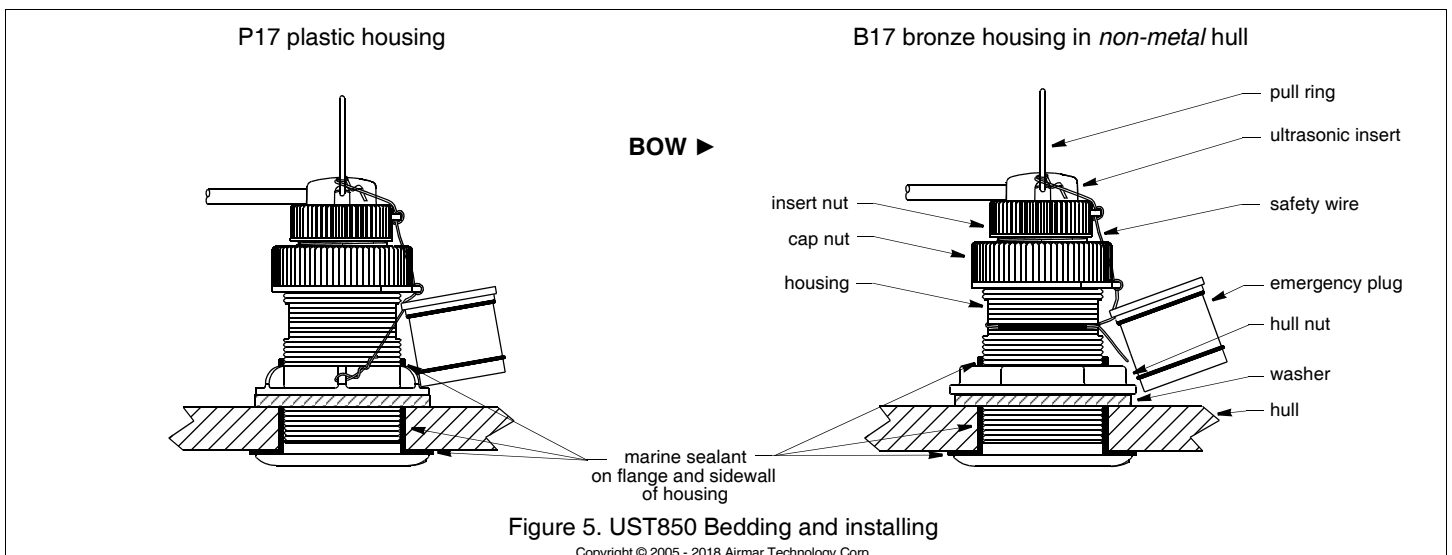

Figure 5. UST850 Bedding and installing
UST850 (Figure 5)
2. Remove the ultrasonic insert from the housing by removing the safety wire from the pull ring and the *insert* nut (Figure 5).
- Reattach the safety wire to prevent the blanking plug from backing out in the unlikely event that the insert/cap nut fails or is screwed on incorrectly (Figure 5).
- Remove the *short emergency plug* from the safety wire (Figure 5).
- Secure the *short emergency plug* with the *cap nut*. **Hand tighten** only. Do not over tighten. Reattach the safety wire (Figure 5).
10. Attach the safety wire to the *short emergency plug*, the *cap* nut, the *insert* nut, and the pull ring to prevent the ultrasonic insert/blanking plug from backing out in the unlikely event that the *insert* nut and/or *cap* nut fails or is screwed on incorrectly (Figure 5).